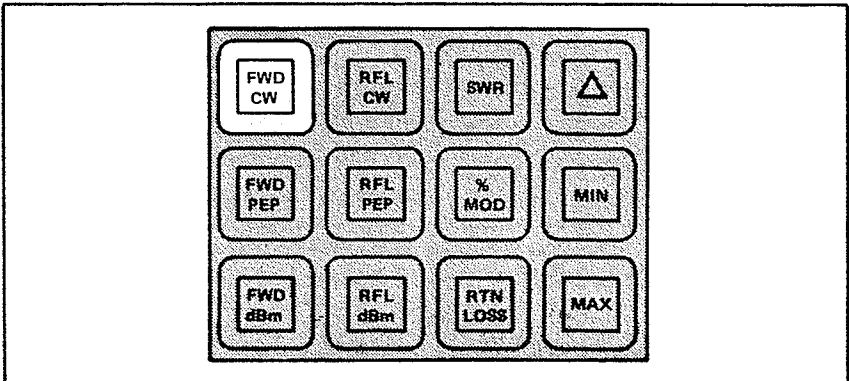

Figure 3-1. Forward Power (CW).
a. Reading Forward Power. (Figure 3-1.) For this measurement only a forward element is required. Install the meter and element according to the preceding paragraphs and move the power switch to **ON**. When powered up, the series 4380 always goes into the forward CW power mode. If the unit is already operating, the forward CW power mode is selected by pressing the **FWD CW** key momentarily. If the applied power exceeds 120% of the range, two right facing arrow heads (i.e., "greater-than" symbols) will be displayed. The operation of this error message does not depend on the correct setting of the range switches by the operator, nor will the meter or its elements be damaged if the switches are incorrectly set.